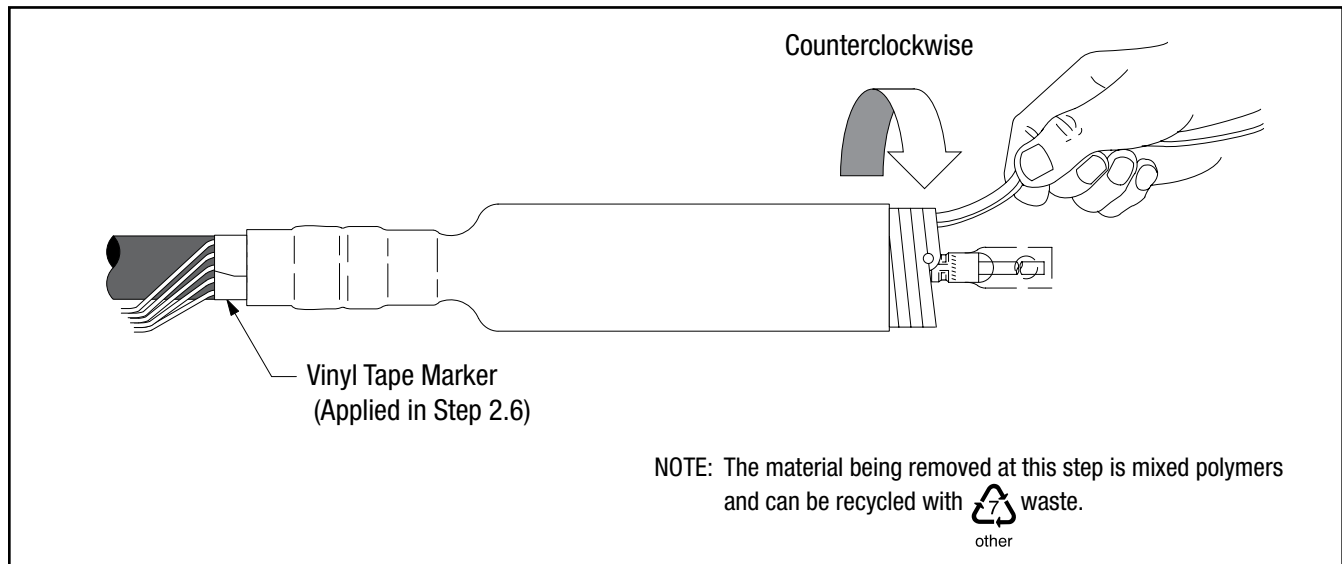

Figure 5
- 5.1 Slide the termination body onto the cable and remove core. Make sure the termination body (not the core) is butted up to the edge of the vinyl tape marker previously applied (Figure 5). Pull the core while unwinding, counterclockwise, starting with the loose end (Figure 5). Be sure to alternate the pulling and unwinding actions (pull-unwind-pull-unwind-etc.) to help prevent the core material from binding up as the core is being removed.